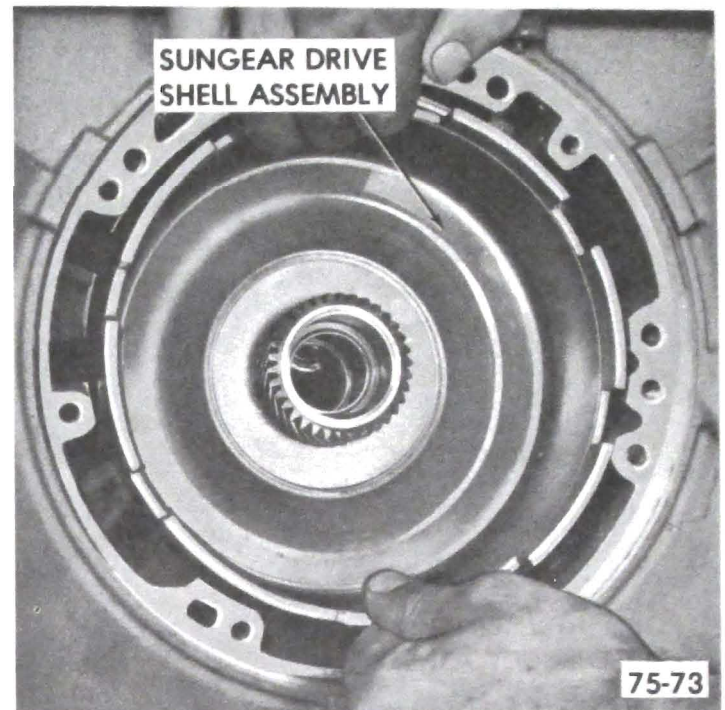

Figure 75-104
1. Remove sun gear drive shell assembly. See Figure 75-104.